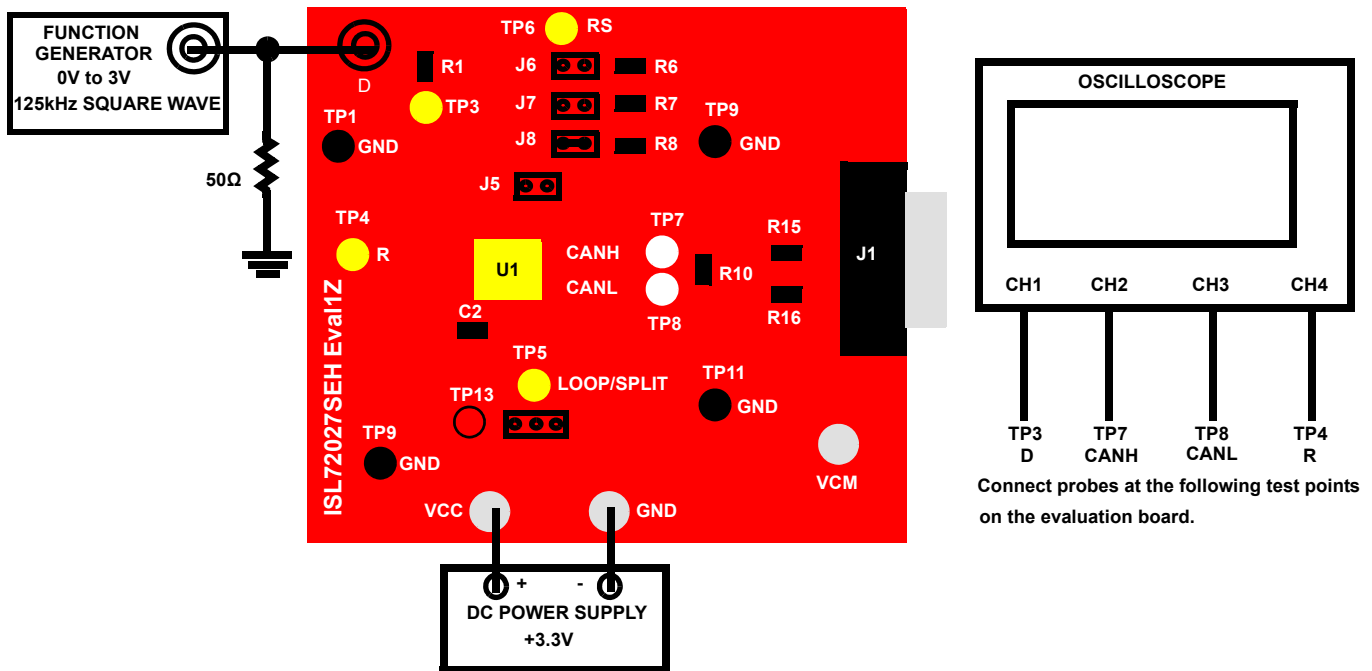

FIGURE 2. BASIC EVALUATION TEST SETUP BLOCK DIAGRAM (MEASURING PROPAGATION DELAY, SKEW AND RISE/FALL TIME)
Refer to Figure 2 on page 4.
1. Attach the main evaluation board to the DC power supply to the banana jacks labeled VCC and GND as shown in Figure 2. Positive terminal at VCC and negative terminal at GND. The supply should be capable of delivering 3.0V to 3.6V and 100mA of current. Set the supply voltage to 3.3V.
3. Connect the oscilloscope to the evaluation board as indicated in Figure 2.
4. Connect the function/signal generator at the BNC connector labeled D on the evaluation board as shown in Figure 2. Set the generator to output a 125kHz square wave, 0V to 3.3V amplitude, 50% duty cycle with a  $t_{rise} = t_{fall} \leq 6ns$ . Disable the generator output.